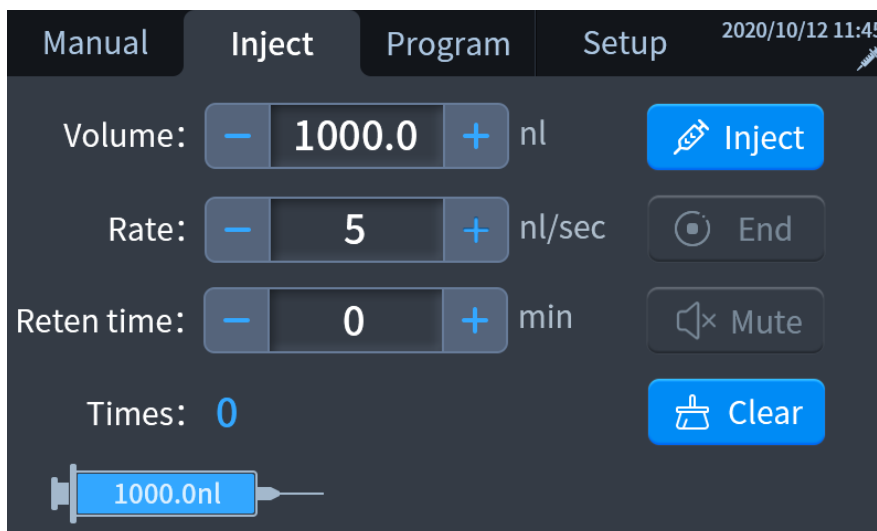

Figure 5-11
- 12) If the [Reten time] on the [Inject] interface is set to 0, shown as figure 5-11, the operation ends.